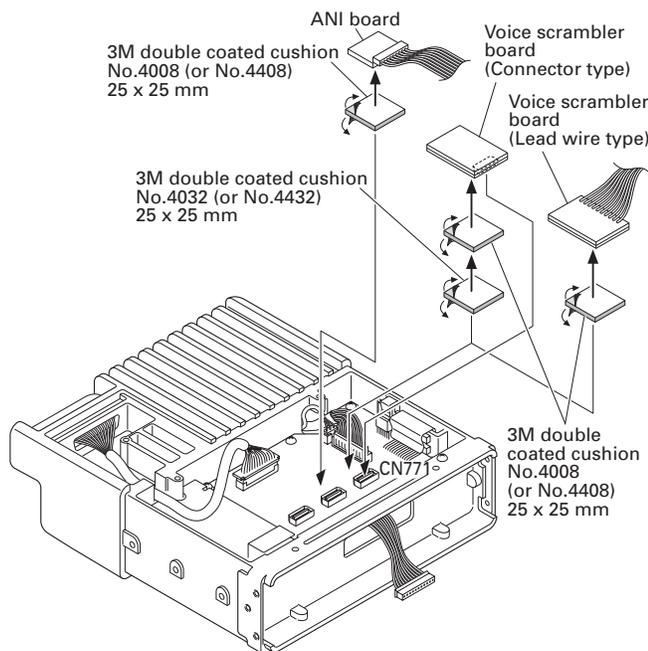

Fig. 7-2
- (1) Attach two cushions to the scrambler board as shown in Fig.7-2.
- (1) Attach the cushion to the scrambler board as shown in Fig.7-2.
- (2) Solder each lead wire of the scrambler board to a necessary location of each landing on the component side of the control unit.
2. Attach the cushion to the ANI board as shown in Fig.7-2.